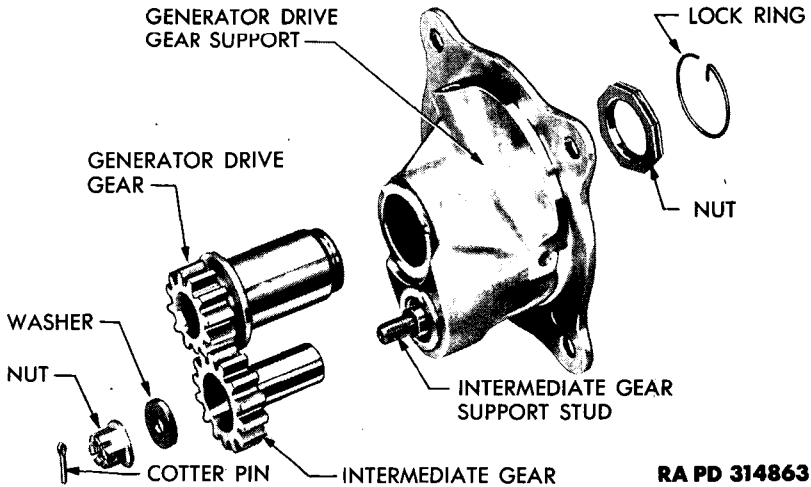

Figure 186 — Generator Drive Gear Support — Disassembled
56. GENERATOR DRIVE GEAR SUPPORT (fig. 186).